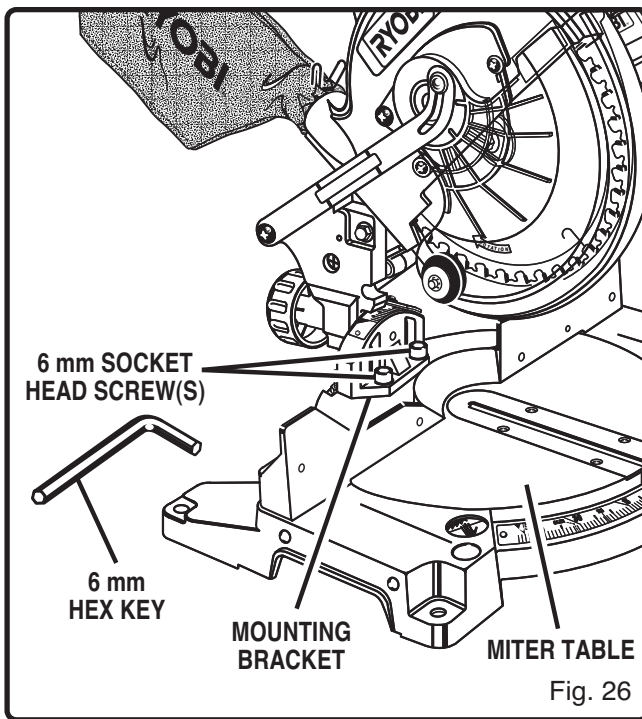

Fig. 26
- Using the 6 mm hex key provided, loosen the socket head screws that secure the mounting bracket to the miter table. See Figure 26.